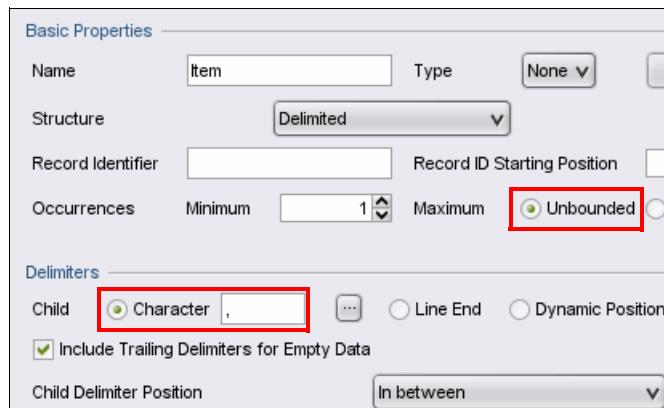

Figure 12-24 Settings for item
- In the New Record window, name the new child Item, and click **OK**. Complete the configuration, as shown in Figure 12-24.